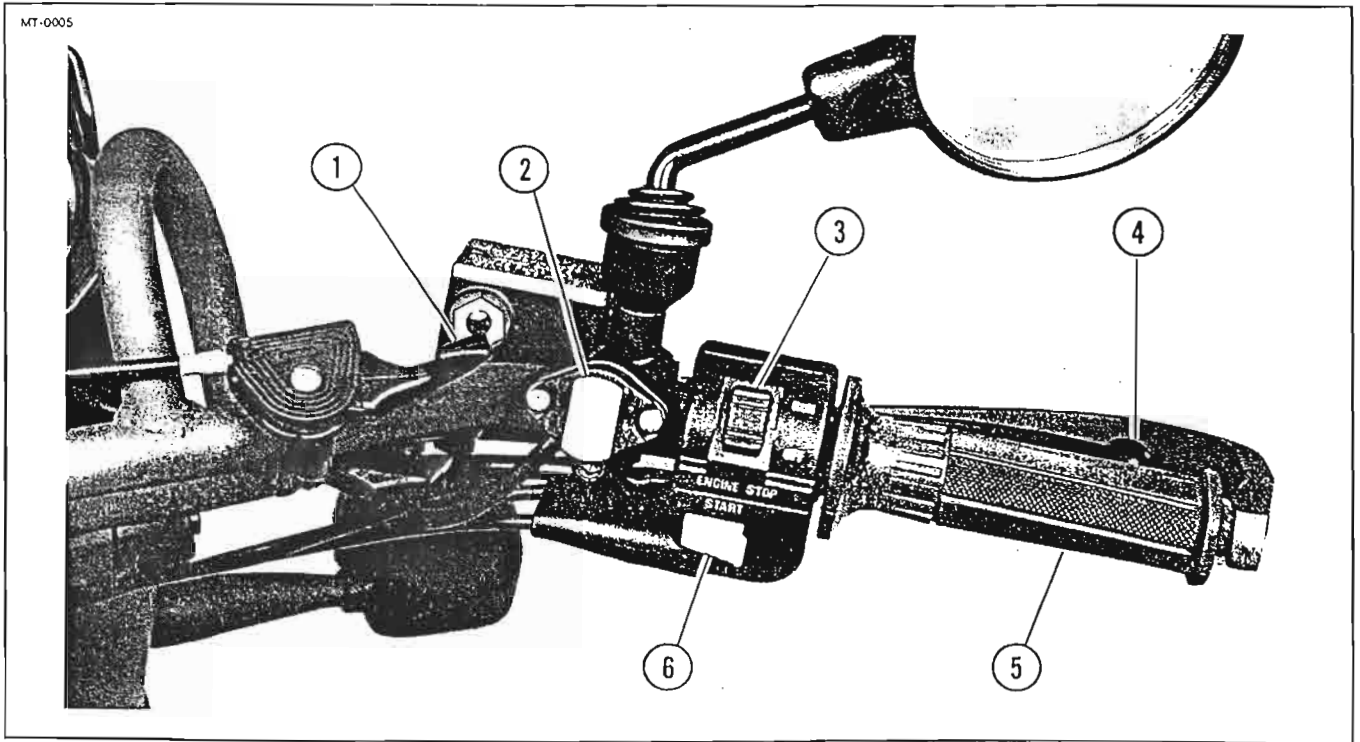

Figure 2-3. Right Handlebar Controls
3. *Right Handlebar Controls* – See Figure 2-3.
## Legend for Figure 2-3.